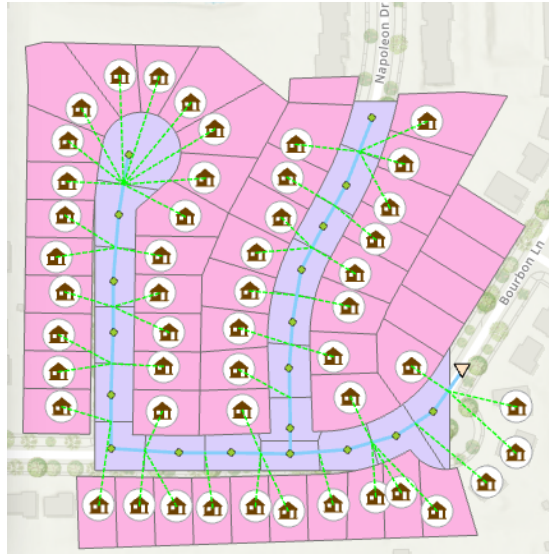

Figure 12: Meter assignments in the map.
11. If you reopen the Inflow Builder and click **Show meter assignment**, a line will be drawn from the meter layer to the closest pipe as shown in **Figure 12** (remember allocation method is the upstream junction of the closest pipe).
If you notice one of the meters is drawn to the incorrect place in **Figure 12**, you can manually adjust where the meter is drawn to, and then reassigning the inflows.